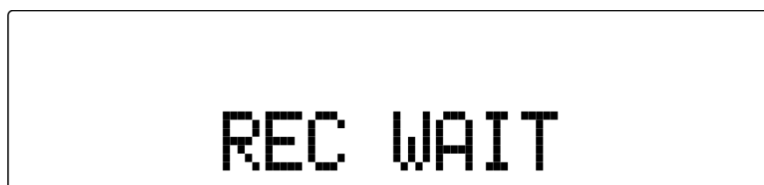

Fig. 08
- AUX: for recording from a source connected to the **Aux In** (23) input directly to either SD/MMC card or USB stick (in MP3 format).
- 02) Pressing the **Rec** (44) button shortly will start the actual recording. The display will flash and look as shown in fig. 08.